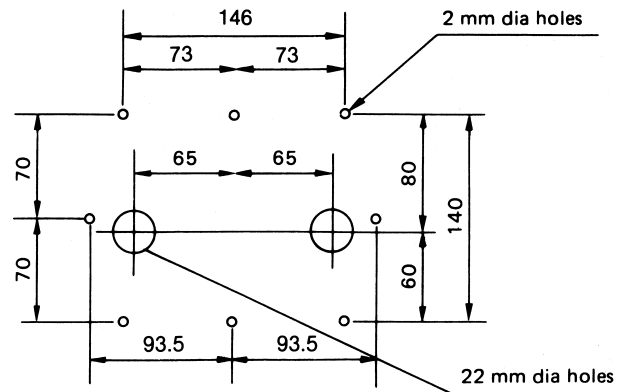

Fig. 1
3. Having chosen the most suitable location drill two 22 mm holes and eight 2 mm holes at the spacing shown in figure 1.